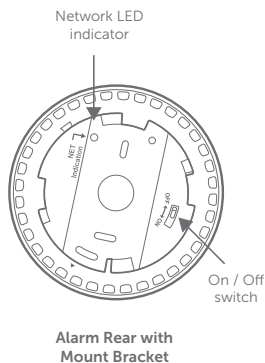

Figure 7
3. The switch on the rear of the unit can either be turned on by hand, or the mounting bracket can be used to turn the alarm on by inserting it and turning (see Figure 7).
The switch on the rear of the unit can either be turned on by hand, or the mounting bracket can be used to turn the alarm on by inserting it and turning. (If turning on by hand make sure it is switched off before mounting it back into the bracket at installation (see Figure 7).
- Check the wireless alarm (ZSC-RF) is switched on (see Figure 7) and working by pressing and holding the test button for approximately 2 seconds, the alarm test sequence will sound after a short delay.